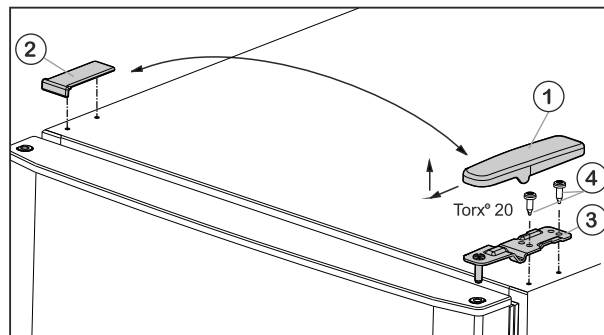

Fig. 5
- ▶ Pull off the cover Fig. 5 (1) forwards and upwards.
- ▶ Lift off the cover Fig. 5 (2).
- Unscrew the upper turn hinge *Fig. 5 (3)* (2 x Torx® 20) *Fig. 5 (4)* and lift it off.
- Insert the upper turn hinge *Fig. 5 (3)* in the door on the new hinge side.
- Screw in the upper bearing block **tightly (with 4 Nm)** (2 x Torx® 20) *Fig. 5 (4)*. Use a cordless screwdriver if necessary.
- Fit the cover *Fig. 5 (1)* on the opposite side by sliding it rearwards and latching it into place.
- Press the cover *Fig. 5 (2)* on the opposite side down into place until it latches.